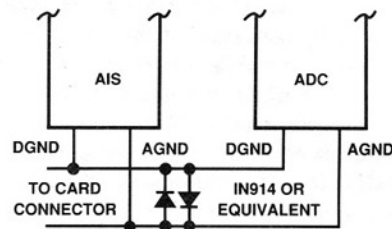

Figure 11. Ground-Fault Protection Diodes
**Grounding:** Analog and digital signal grounds should be kept separate where possible to prevent digital signals from flowing in the analog ground circuit and inducing spurious analog signal noise. Analog Ground (Pin 17) and Digital Ground (Pin 2) are not connected internally; these pins must be connected externally for the system to operate properly. Preferably, this connection is made at only one point, as close to the AIS, as possible. The case is connected internally to Digital Ground to provide good electrostatic shielding. If the grounds are not tied common on the same card with the AIS they should be connected with back-to-back general purpose diodes as shown in Figure 11. This will protect the AIS from possible damage caused by voltages in excess of  $\pm 1$  volt between the ground systems which could occur if the key grounding card should be removed from the overall system. The device will operate properly with as much as  $\pm 200$  mV between grounds, however this difference will be reflected directly as an input offset voltage.